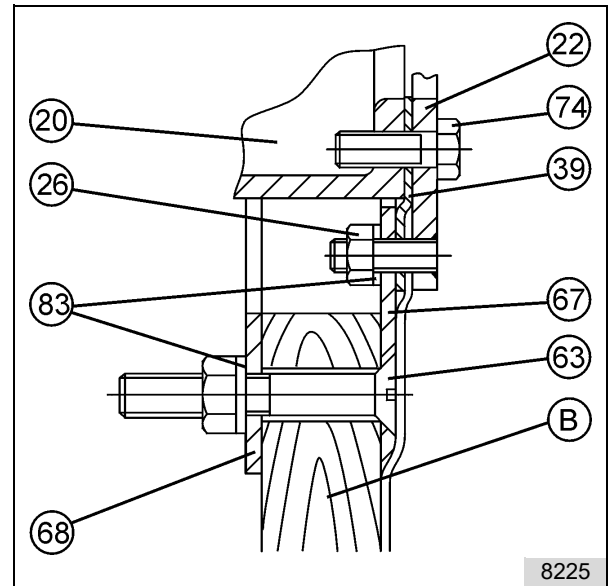

fig. 18: Detail from fig. 17
*N* For details see fig. 18
Then mount the installation kit (92) on the clamp ring (22) with the screws (74). See also detail "N" in fig. 18.